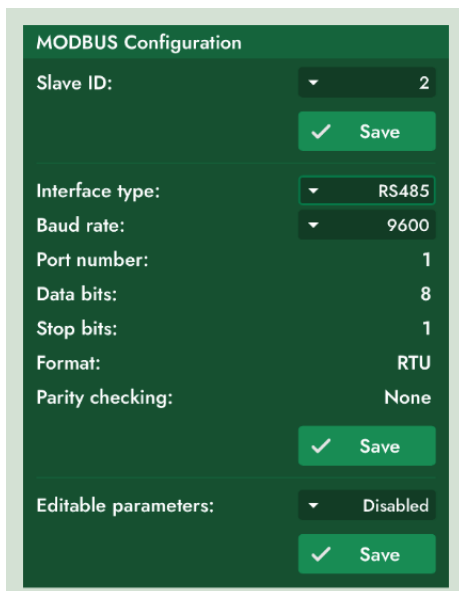

Figure 6: Mobile App – System Setup – RS485
- Locate the “MODBUS configuration” panel (figure 6)